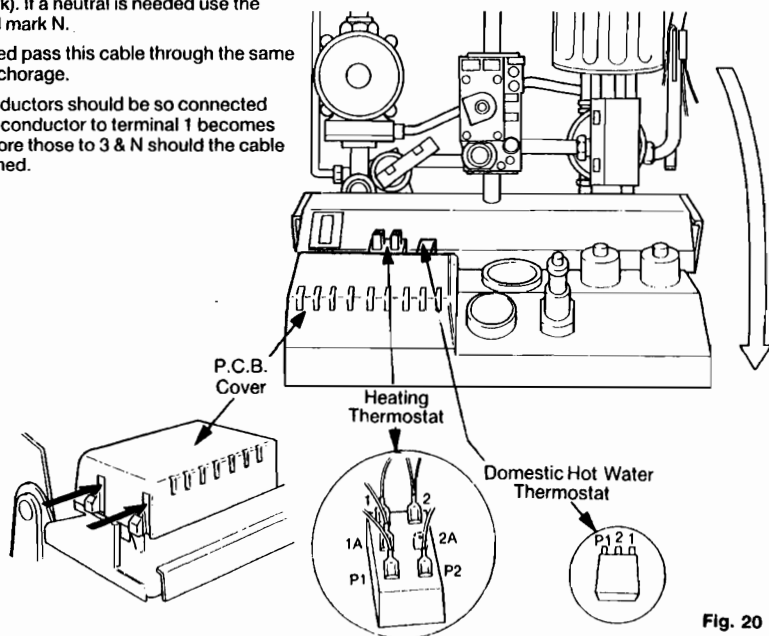

Fig. 20
Press in the sides of the printed circuit board cover (fig. 20) to release retaining clips, and lift cover off.
- 6.7.6** If the boiler temperature is above 60°C turn the dhw thermostat down until the low flame is established. If low flame cannot be established in this way, turn off the electricity supply and transfer the cable on terminal 2 of the dhw thermostat to terminal 1 (Fig. 20 shows location). Switch on electricity.